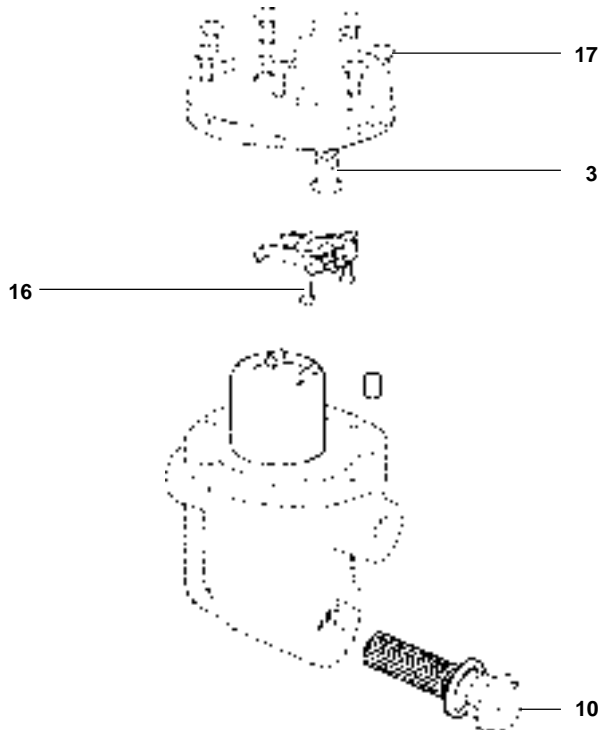

Fig. 3
6.2 How to fit the valve and seat assembly (refer to Fig. 3):
6.3 How to clean/replace the strainer screen (refer to Fig. 3):